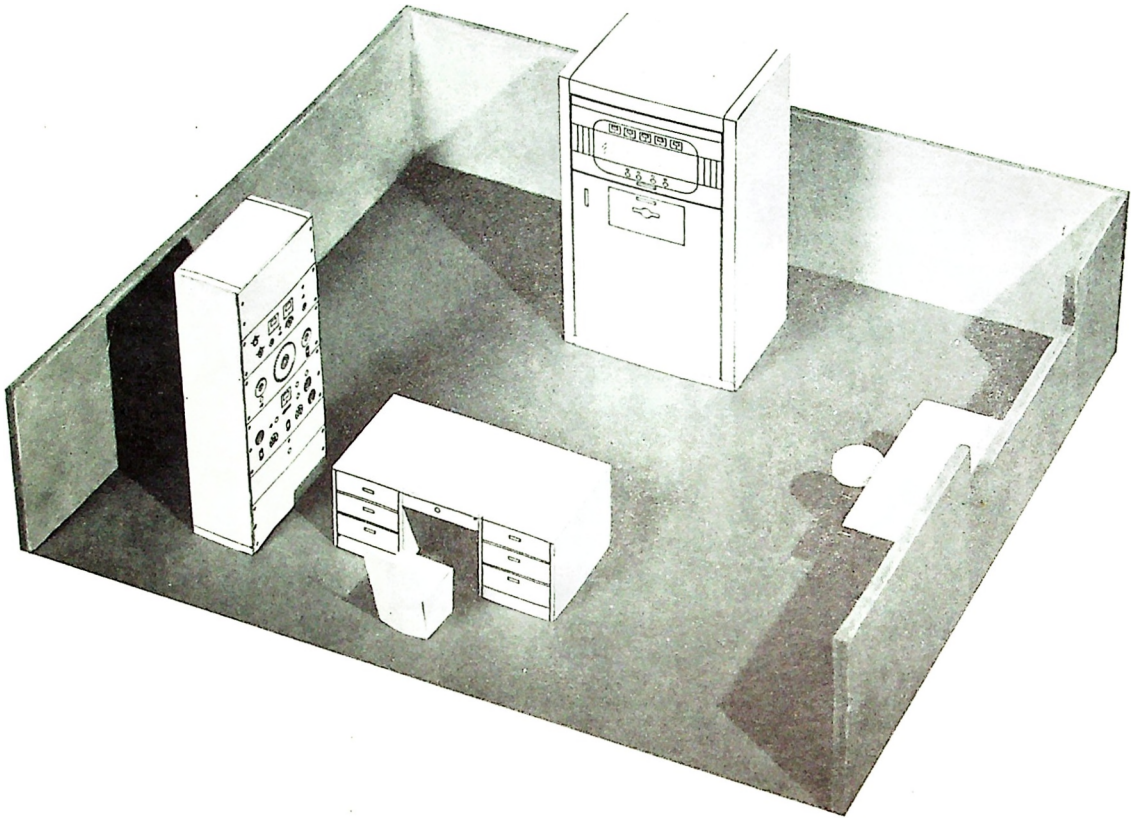

Figure 2-2 Typical Installation
2.2.1. Location of Transmitter. - A typical station layout is shown in figure 2-2. This may be used as a pattern for your station. In any arrangement, the transmitter should be placed so that there is a minimum clearance of 30 inches at the rear of the transmitter to permit free circulation of air. A minimum clearance of 43 inches is required in front of the transmitter to allow the doors to be opened.